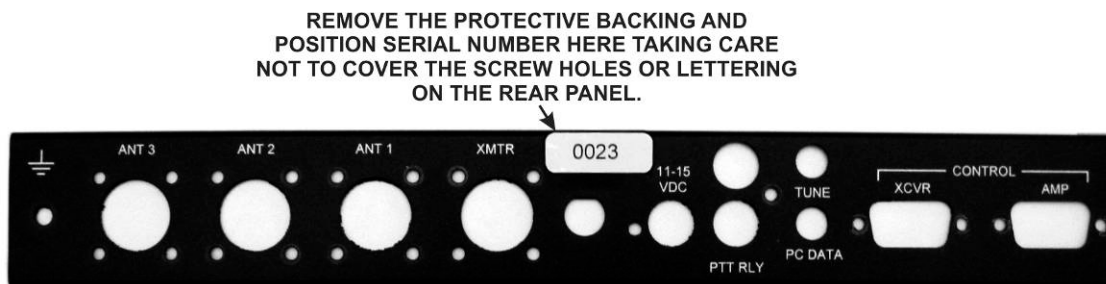

Figure 22. Attaching Serial Number to Rear Panel.
- Remove the protective backing from the serial number label and press it onto the rear panel as shown in Figure 22. Be careful not to cover the screw holes or lettering on the rear panel.